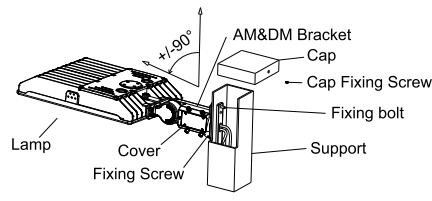

Figure 25
Step 2: Fix the DM bracket to the square pole by bolt. Connect the power cable with pole cable, make sure good protection on the wire connection, and put the wire in the DM bracket; close the side lid and tighten it, (figure 25) then finish installation.
Notice: Adjustable angle is 0~+/-90° (Figure 25)